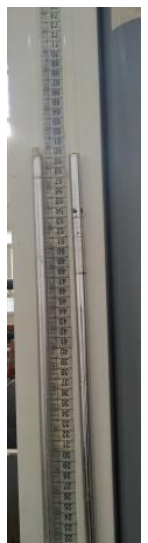

Figure 2
- U-tube manometer Reading (y) in (cm) as shown in fig.2